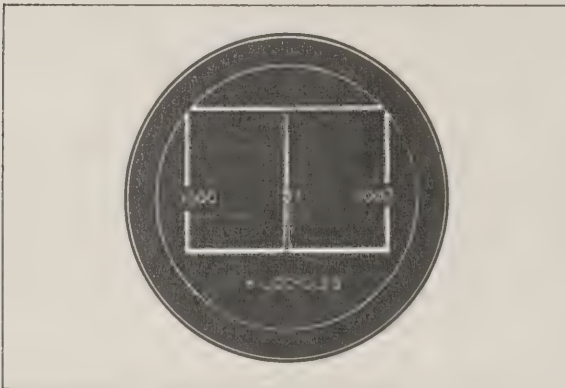

Figure III-2. Constant Carrier Signal (at Approximately Maximum Sweep Width)
a. A constant carrier (Fig. III-2) appears as a deflection of fixed height.